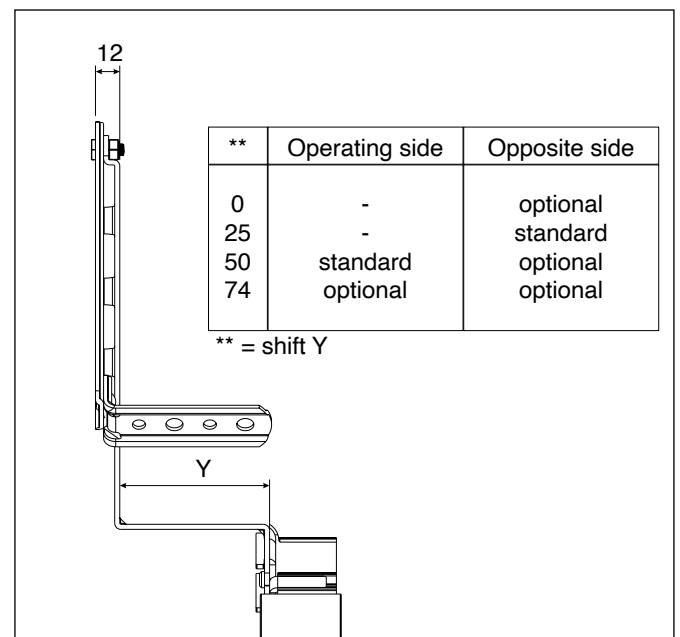

Fig. 22b:
- available bearing supports: see Fig. 22b